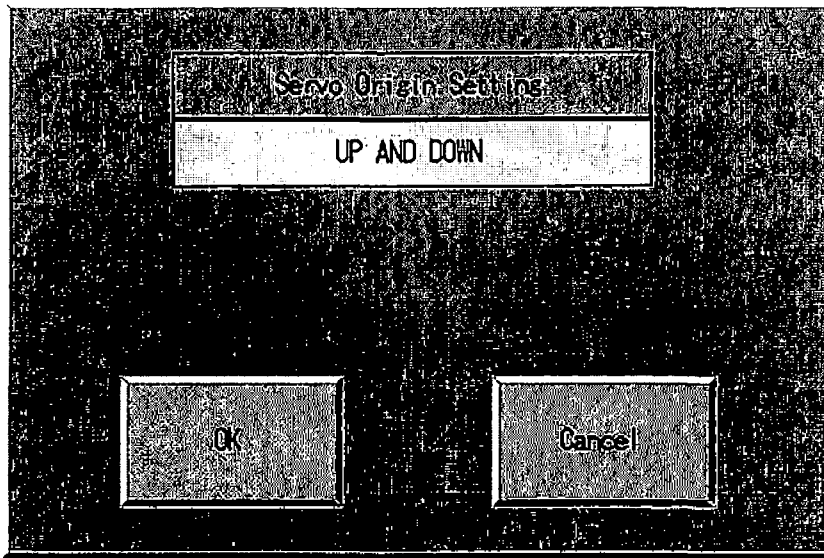

Fig 14-4-12-3. Servo Origin Set
- ② Origin set . . . The pop-up window shown in Fig 14-4-12-3 appears when pressing this switch. The origin set is available on the screen.